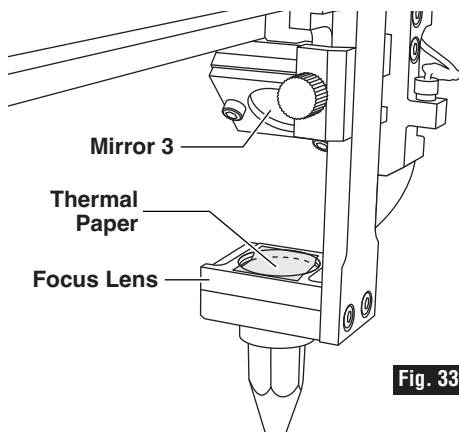

Fig. 33
2. Place the thermal paper: Take a small piece of thermal paper approximately the same size as the face of the lens and place it over the focus lens under Mirror #3. See figure 33.